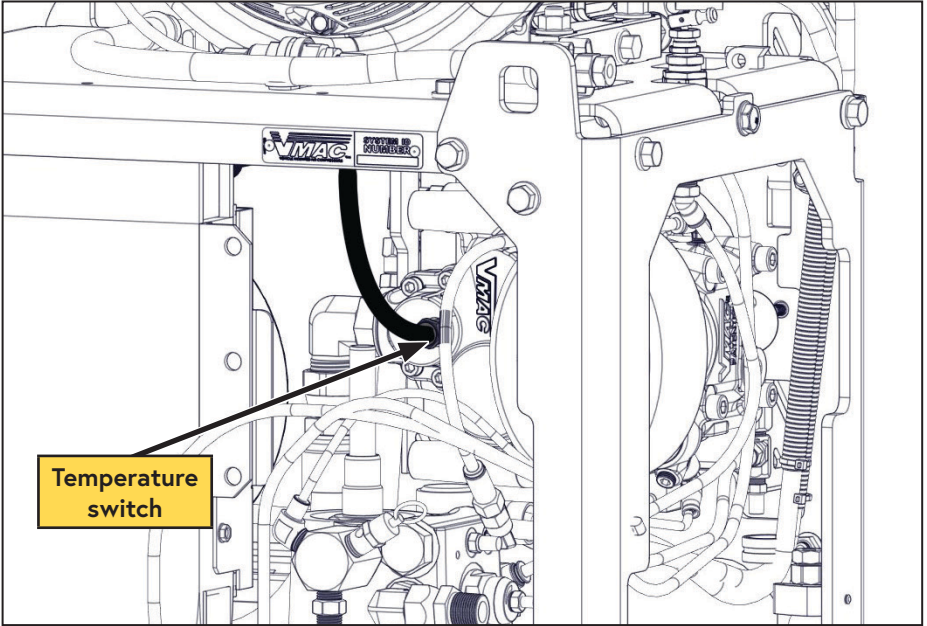

Figure 72 — Compressor temperature switch removal
- Compressor Temperature Switch Replacement (Figure 72)